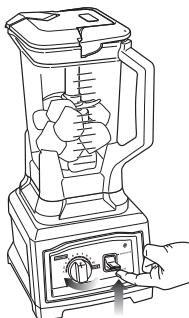

Fig. 6
- 10 Turn the Variable Speed Dial to speed 1. (Fig. 6) The power indicator light (⊕) will now turn on.